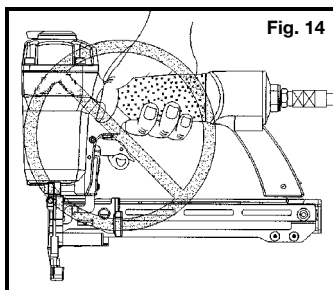

Fig. 14
21. Remove finger from trigger when not driving fasteners. Never carry tool with finger on trigger. In “Contact Actuation Mode” tool will fire a fastener if safety is bumped while trigger is depressed. Fig. 14.